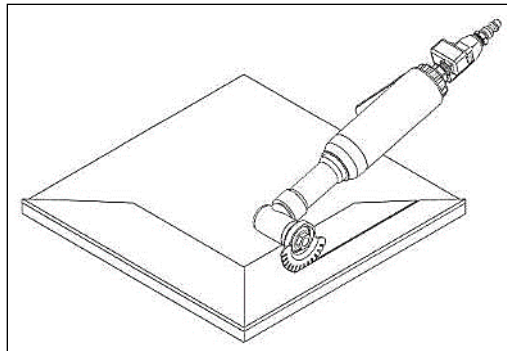

Figure 4. Typical Tool and Material Alignment
- 3.2.2. With the GFR-Disc/Blade in line with the direction of cut and engaged in the thick elastomeric coating (**Figure 4**), begin to remove material by moving the pneumatic saw and GRF-Disc/Blade along the direction of cut at a slow, steady rate.